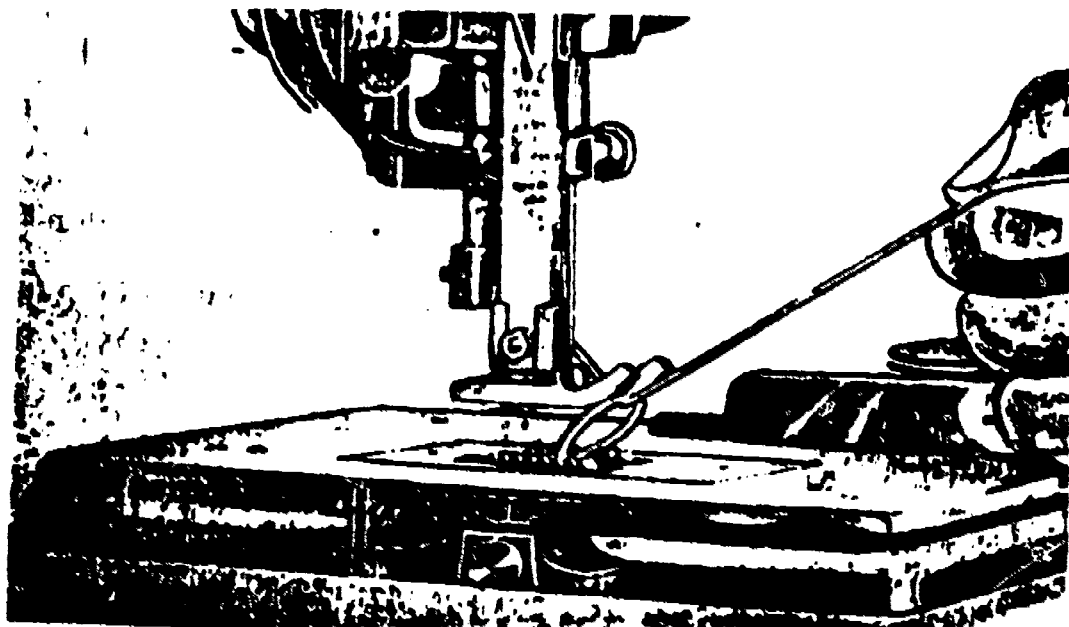

Figure 6. Drawing Up the Bobbin Thread.
- s. Bring the bobbin cord up through the throat plate by turning the balance wheel, while holding the needle thread, figure 6.